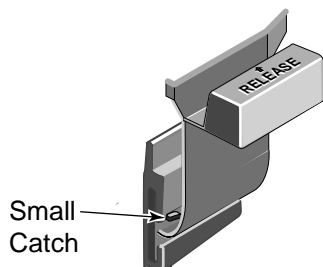

Figure 8 – Safety Latch
### SAFETY LATCH (See Figure 8)
1. Press down on the small catch behind the safety latch and press or tap the latch out of the "Tee" slot in the tank (see Figure 8).